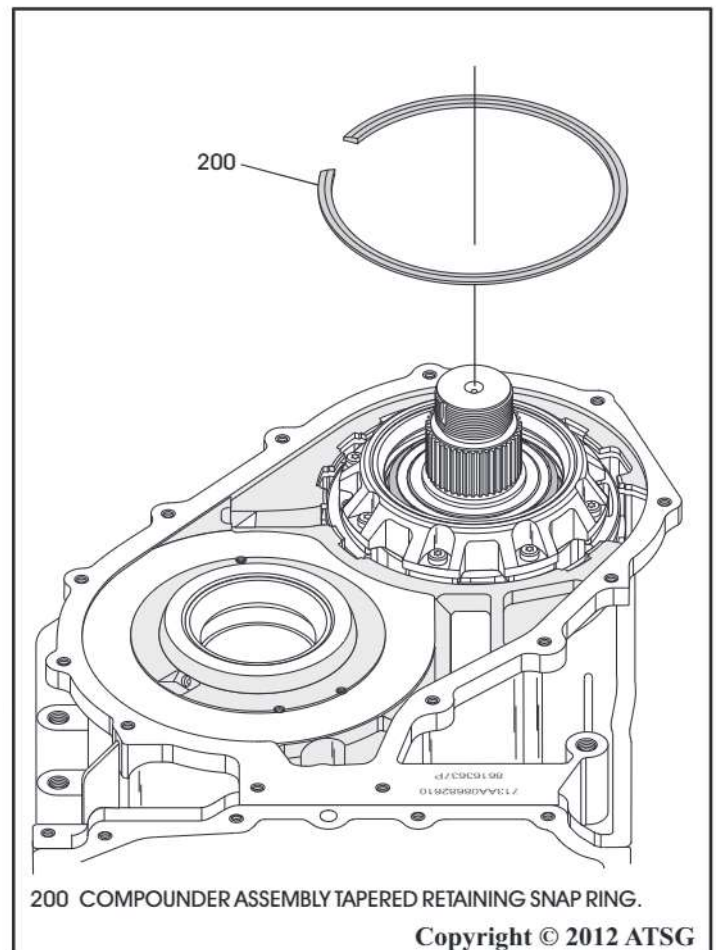

Figure 82
79. Remove tapered snap ring retaining underdrive compounder assembly in the transaxle case, as shown in Figure 82.